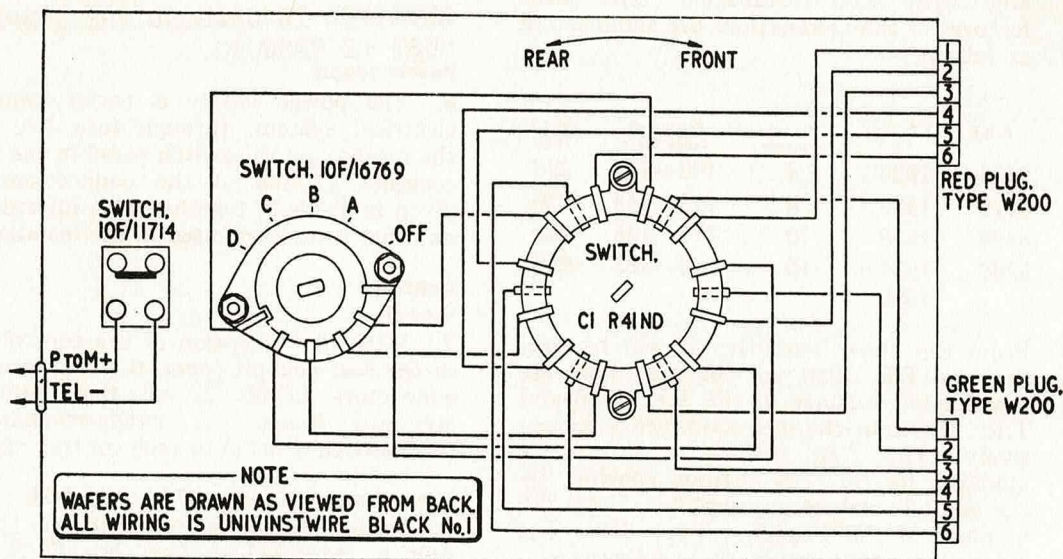

Fig. 2. Wiring of master control unit (A.R.I.5272 and A.R.I.5454)
9. Units forming the controller are mounted in a light-alloy box having a detachable backplate. The main components in the box are listed in *Table 1*; *fig. 2* shows the wiring arrangement.
10. Referring to *fig. 2*, it should be noted that switch C1.R.41ND, when selected to FRONT, transfers channel-selection facilities to the control unit in the front cockpit and removes them from the rear cockpit. When switch C1.R.41ND is selected to REAR, the channel selector switch (10F/16769) functions to give precisely the same method of remote control as that described in A.P. 2538H, Vol. 1, (2nd Edition), Part 1, Chap. 4.